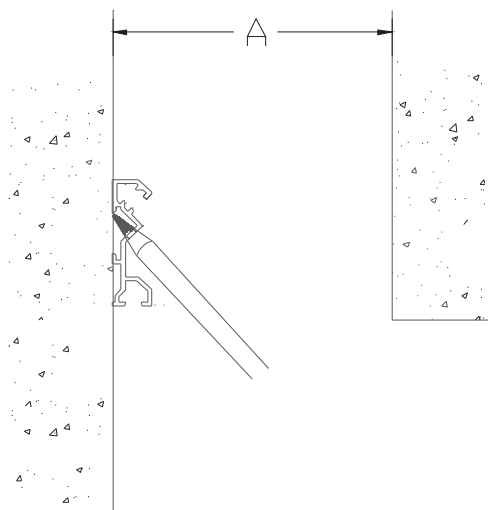

Figure 3
**STEP 5.** Using the base member as a template, mark the locations for the anchor holes on the substrate, see Figure 3.